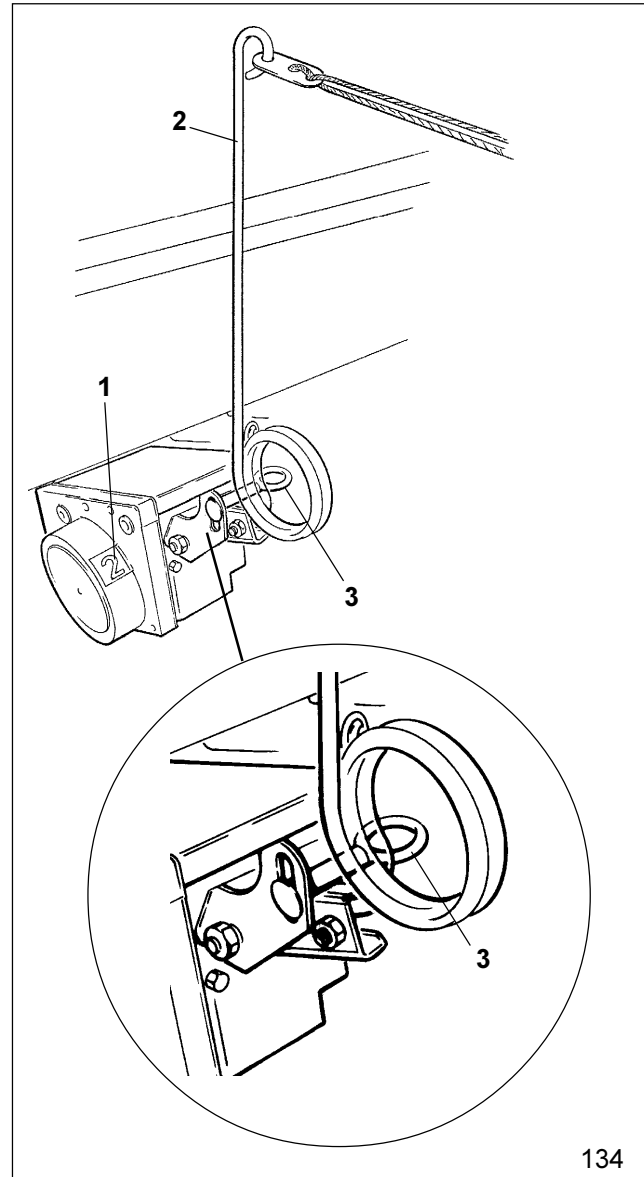

Fig. 18.8
Prior to starting the operation the switch box should be set to the correct figure (Fig. 18.8/1). On the following page you will find examples for creating tramlines. The columns "A" to "D" include:
Move to column "C" of the control of your switch box and set the first figure in column "D" below "START" in the viewing window of the switch box. Pull the control lever (Fig. 18.8/2) until the correct figure appears in the window. You may actuate the control lever from the tractor cab when you guide the rope fixed to the control lever into the tractor cab
- Push the clamping bolt (Fig. 18.8/3) in the slotted hole downwards until the switching on the control lever (Fig. 18.8/2) is not possible any longer. After setting firmly retighten the previously slackened clamping bolt (Fig. 18.8/3).
When the tramlining control has been switched off, figure (Fig. 18.8/1) in the switch box must not be "0" as otherwise tramlines are created continuously.